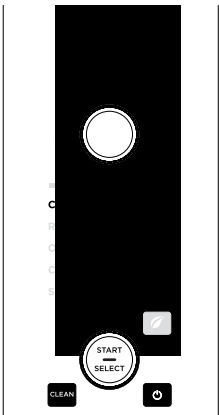

Fig. 9
- 4 Once all parts are securely in place and the unit is powered on, select the Full Carafe size and Classic Brew setting, then press the START/SELECT dial (Fig. 9).